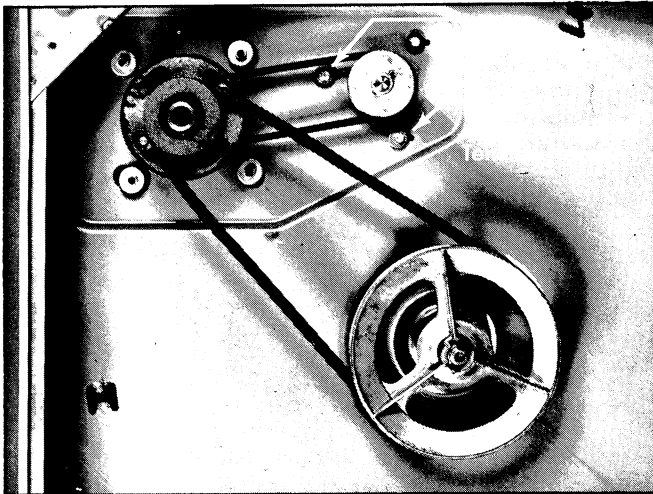

Figure 57 - Motor Bolts Location
- b. The idler arm position. (This adjustment is for belt tension, and is determined by wattage draw.) *Figure 57*